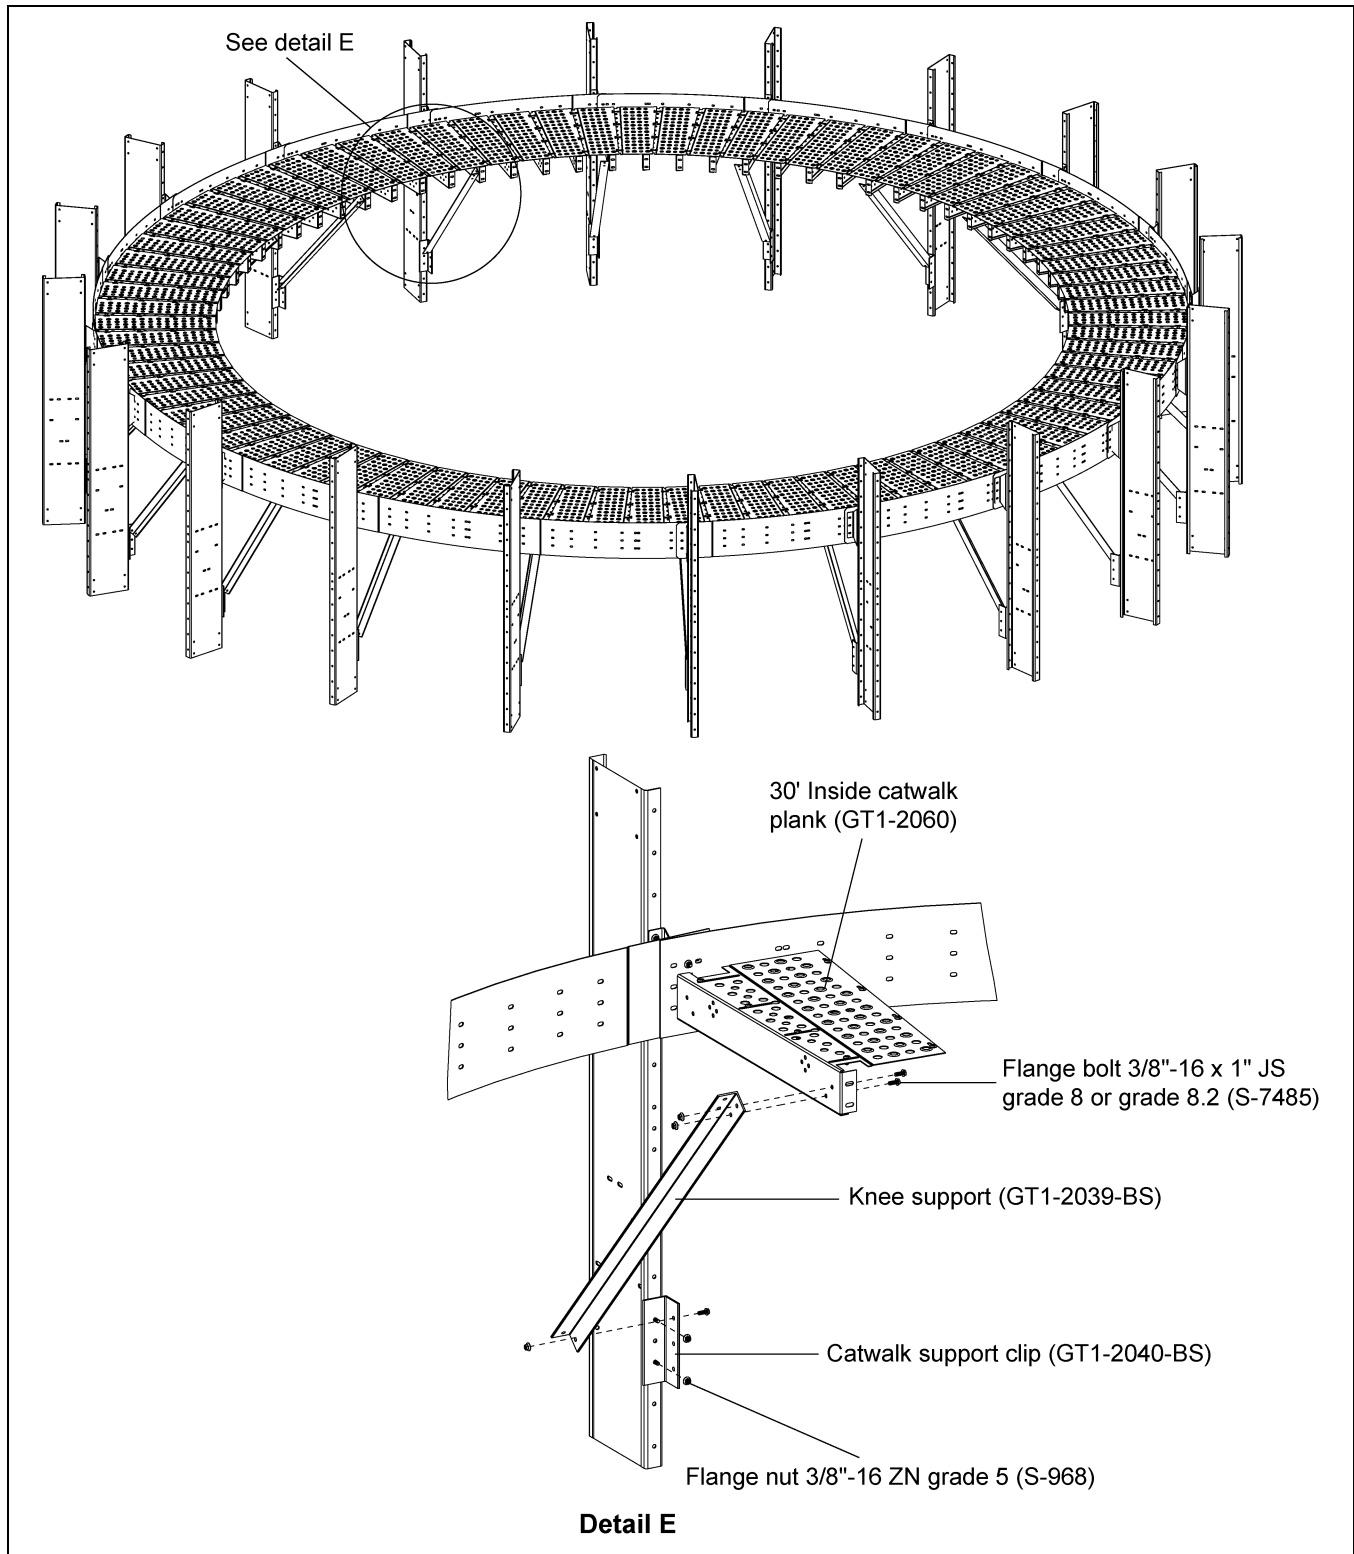

Figure 5I
1. Install the knee support (GT1-2039-BS) around the dryer between the catwalk support clips (GT1-2040-BS) and planks (GT1-2060) using 3/8"-16 x 1" JS grade 8 or grade 8.2 bolts (S-7485) and 3/8"-16 ZN grade 5 nuts (S-968). (See Figure 5I.)